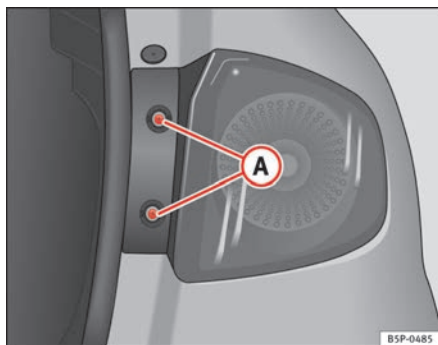

Fig. 185 Side lights and brake lights
- Remove the bolts ⇒ fig. 185 **A**.